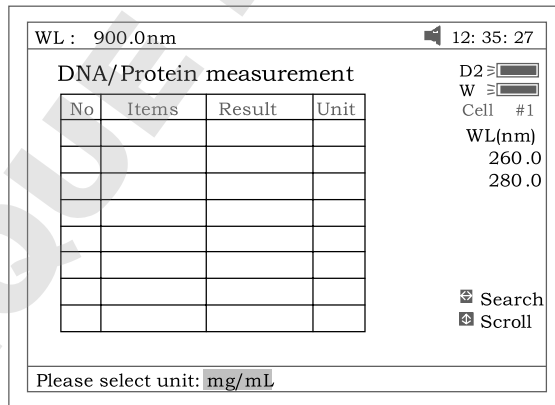

Fig 63
3. Press **[F3]** to select the unit of concentration (Fig 63).